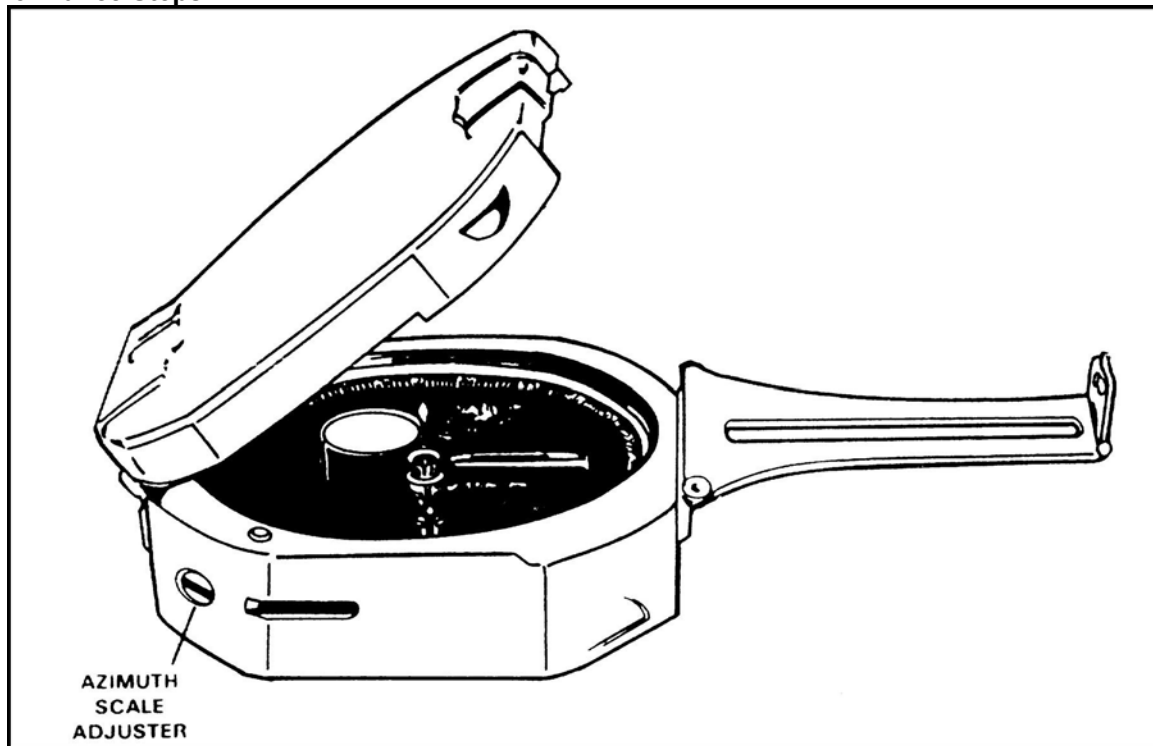
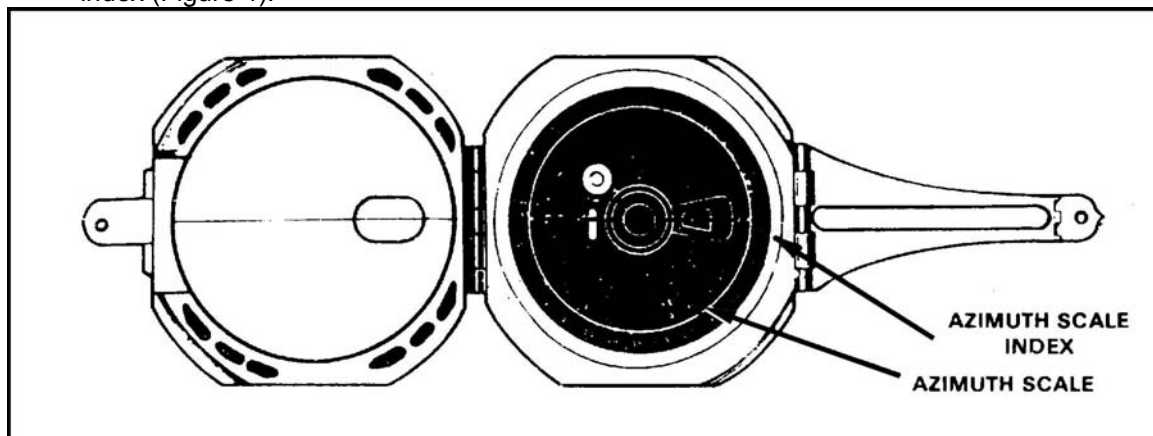

Figure 3. M2 compass azimuth scale adjuster.
Figure 4. M2 compass azimuth scale and index.
- a. Open the compass cover and fold out the rear sight holder parallel with the face of the compass (Figure 3).
- c. Use a screwdriver or other suitable instrument to turn the azimuth scale adjuster (Figure 3) clockwise or counterclockwise until the declination constant appears under the azimuth scale index (Figure 4).